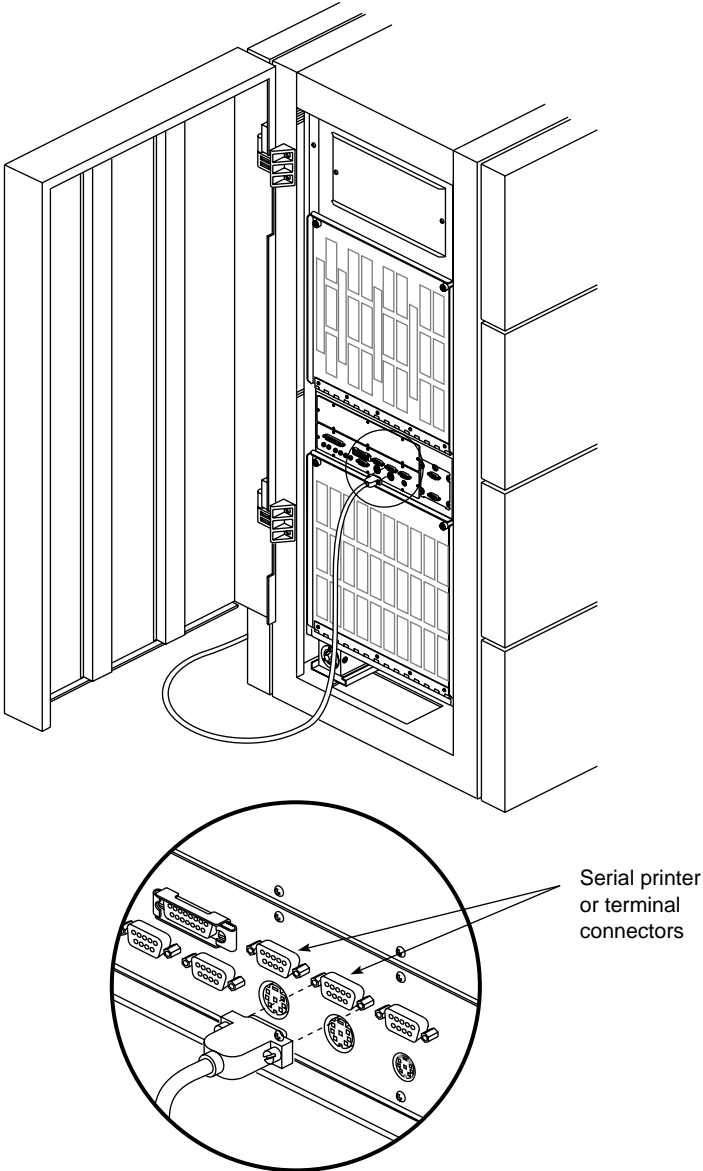

Figure 3-1 Connecting an ACSII Terminal
5. Attach the end of the cable with the 9-pin D-sub connector to the serial connector labeled “ty 1” on the main I/O panel, as shown in Figure 3-1.